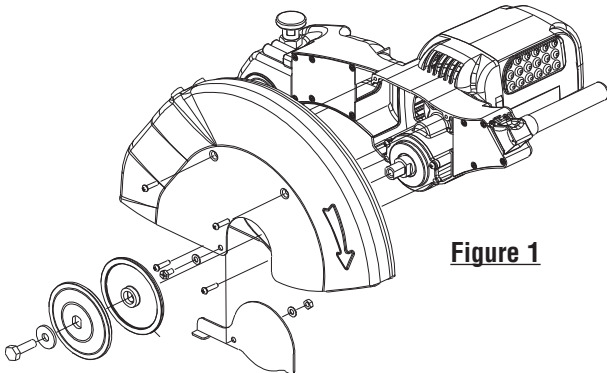

Figure 1
1. Move the blade shaft cover upwards. To remove the blade lock nut, open the shaft space. *Figure 1.*